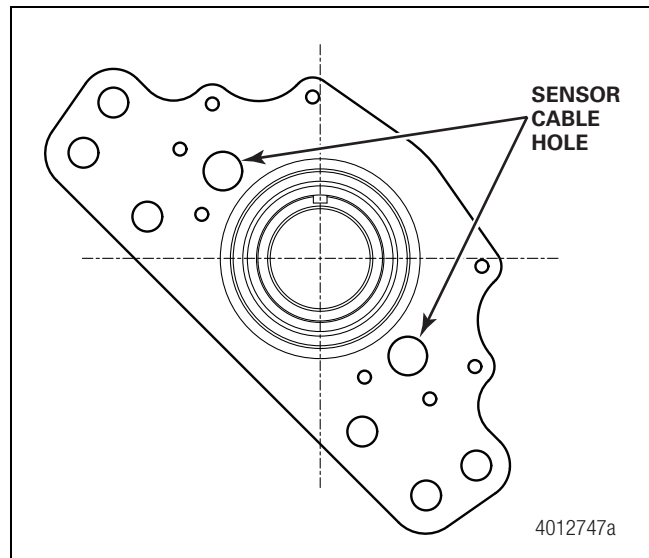

Figure 12.20
- Meritor trailer axles with torque plates for air disc brakes are in production with two ABS cable holes. Depending on accessibility, any one hole can be used to mount the ABS sensor or route the ABS cable through. Figure 12.20.